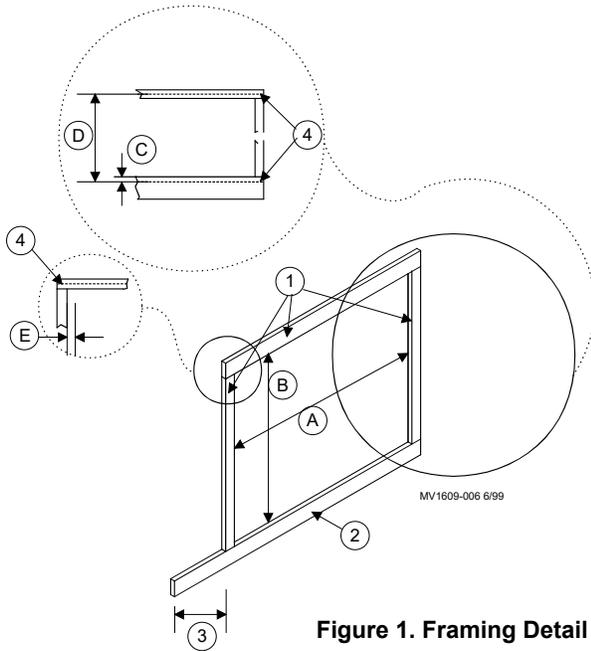

Figure 1. Framing Detail
2. Snap a chalk line on the bottom 2 x 6 **Figure 1-Item C**, 9/16" from the top edge going downward.
Start first cover from sump end. Align holes in top cover as shown in **Figure 1, Dim E**.
2. Bottom Bracket should align with chalkline, see Figure 1, Dim C.